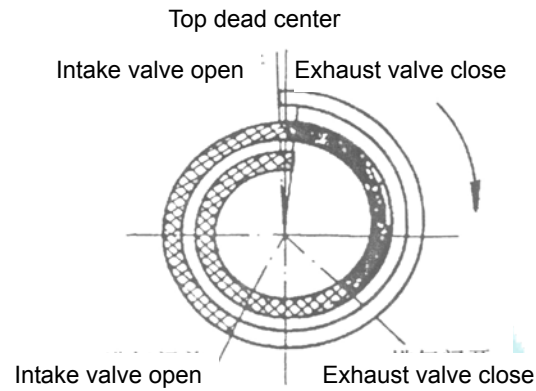

Fig. 1 Valve Sketch Figure
⑦ Valve Timing (with 1 mm clearance) (see Figure 1)